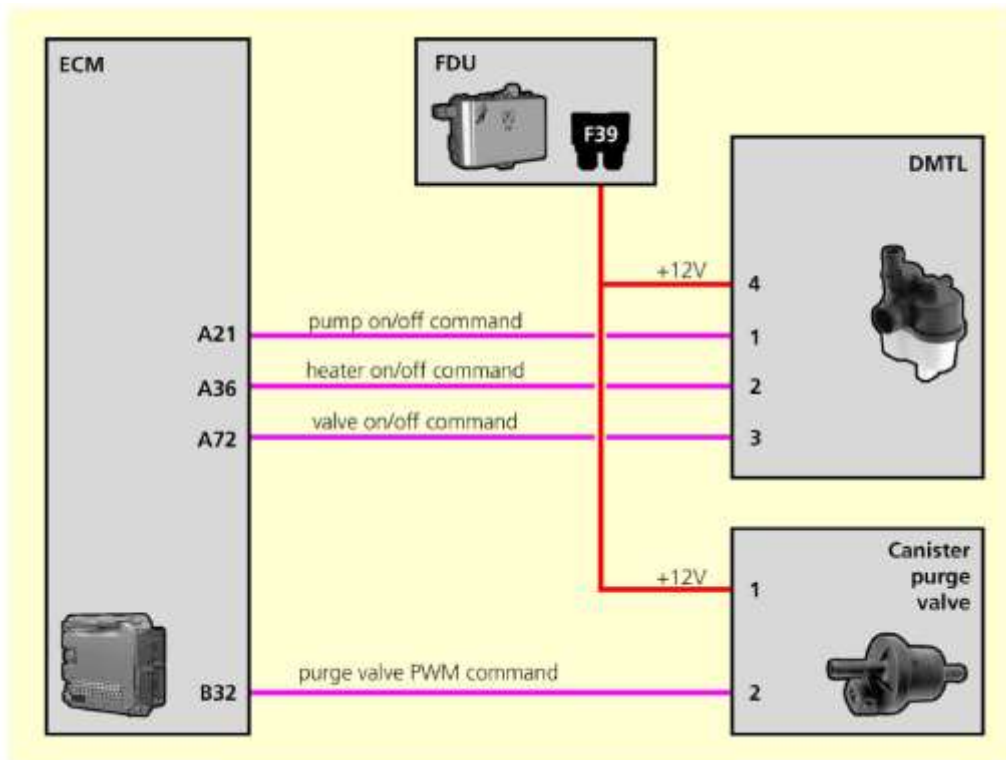

Figure 3: - Connection diagram of the evaporative emissions control system.
- Check the fuse F39 integrity in FDU box and Purge valve wiring harness integrity (Figure 3): absence of short circuits to Power Supply or Ground and absence of open circuits. Perform these checks with KIN in OFF position and disconnected battery power supply.
- Check at pin 1 (Figure 3) of the Purge Connector the power supply of 12V is present, with KIN in RUN position.
(Figure 3): absence of short circuits to Power Supply or Ground and absence of open circuits. Perform these checks with KIN in OFF position and disconnected battery power supply.
- Check at pin 4 (Figure 3) of the DMTL connector the power supply of 12V is present, with KIN in RUN position.